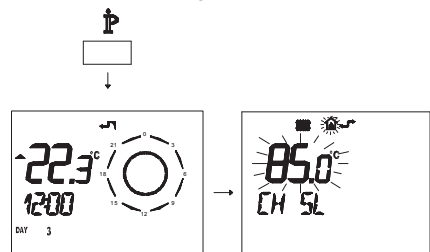

Fig. 7.25
- Press button  for more than 3 seconds to enter in **INFO** (Fig. 7.25) mode.